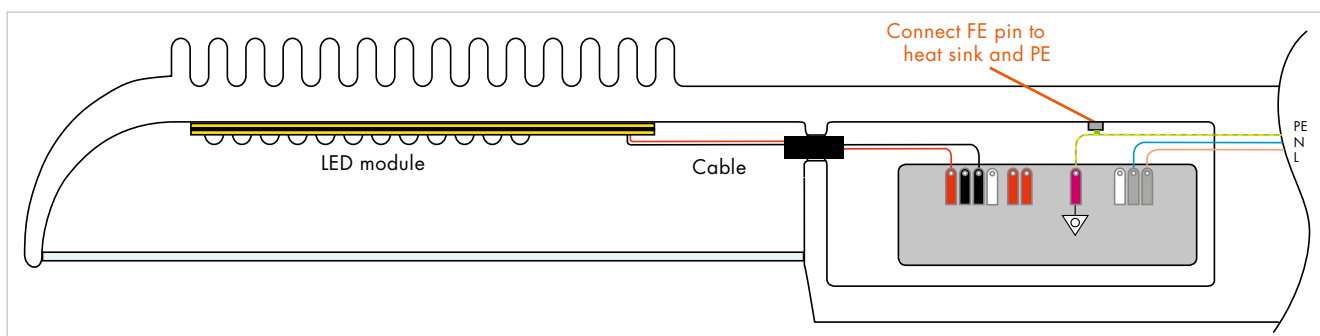

Figure 47: Protection class I luminaire
Multi-Dim LED drivers offer a common mode protection level of up to 10 kV with a unique integrated overvoltage suppression for the connected LED module, which minimizes the stress on the LED module and thus ensures high reliability in the field. To achieve the surge protection levels, the functional earth pin needs to be connected to the heat sink of the LED module (see figures 47 and 48). The functional earth pin meets the insulation requirements for protection class I and II luminaires. The protection level between L and N or SD(2) and N is 6 kV.